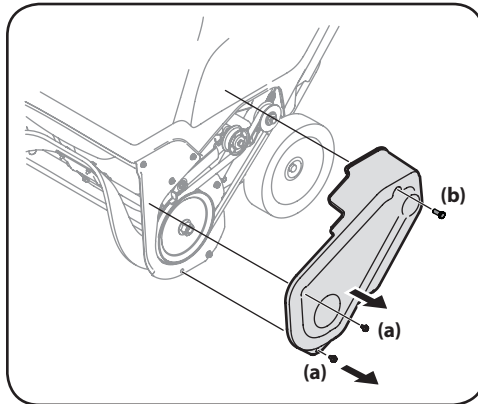

Figure 4-4
4. Remove the belt cover by removing the two hex washer screws (a) and one hex lock screw (b) that secure it to the frame. See Figure 4-4.